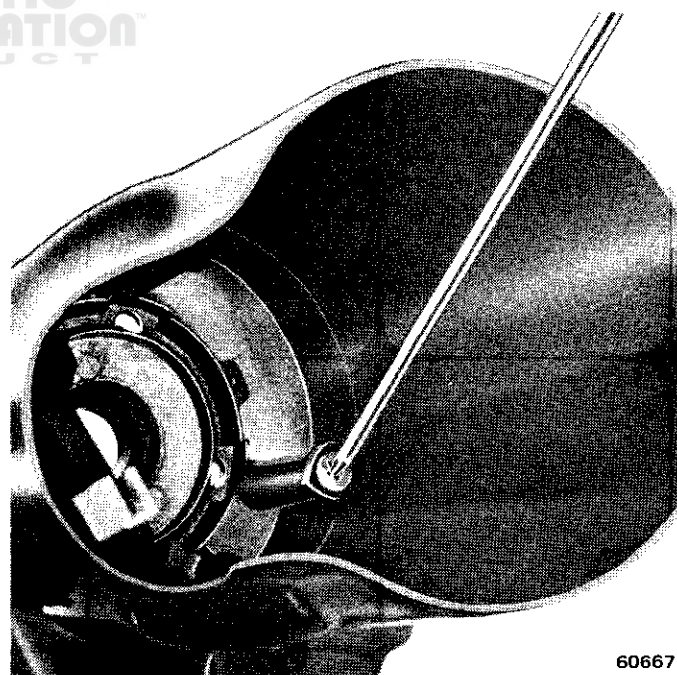

Fig. 2J-12 Removing Shroud From Housing
(19) Remove ignition switch from lower end of column (fig. 2J-10).